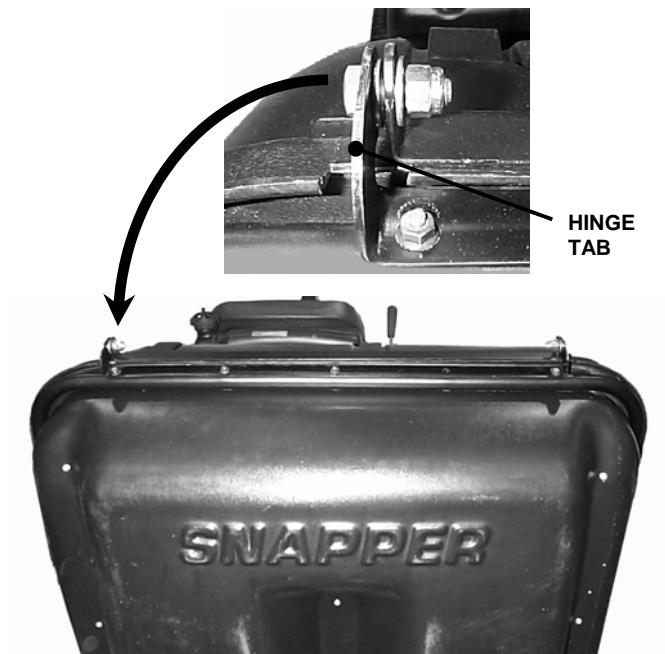

FIGURE 1.7
- A. Place Rear Cover Assembly on Front Cover Assembly aligning holes in left Hinge Tabs. Place one 3/8" flat washer between the two Hinge Tabs and insert 3/8-16 x 1" hex bolt. See Figure 1.7. Add 3/8" flat washer and secure with 3/8-16 Top Lock hex nut. Do not over tighten. Hinge must pivot freely.